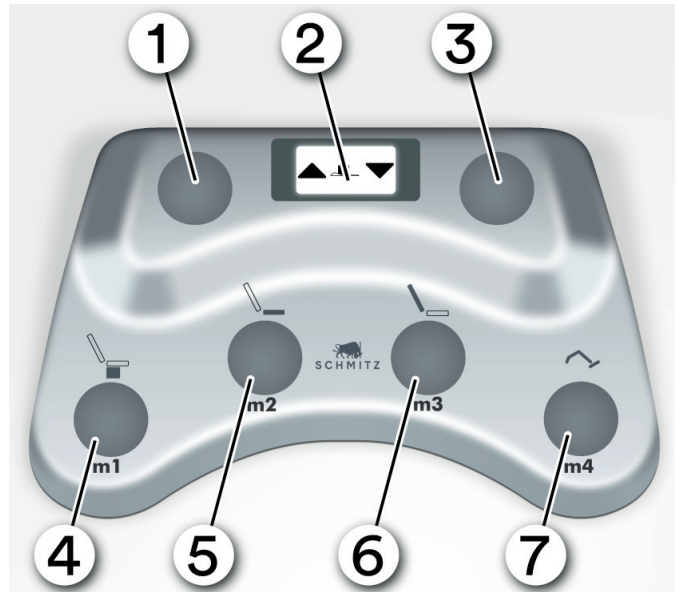

Fig. 34
- ▷ Press the left button for adjustment in the principal direction (part 1 in Fig. 34) *or*
- ▷ Press the right button for adjustment opposite the principal direction (part 3 in Fig. 34).